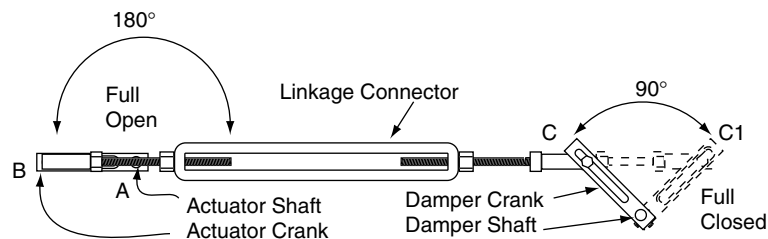

Figure 2. Linkage installed.
3. Mount crank arm on the driven shaft so that the location of the linkage connector in full closed and full open positions (points C1 and C) will fall on a straight line through the center of the actuator shaft. See Figure 2.